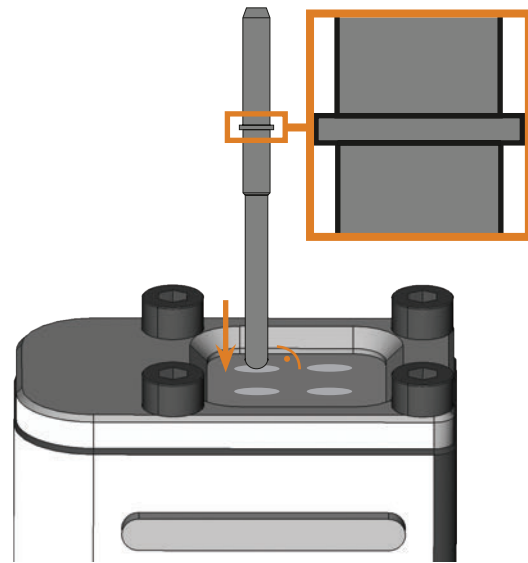

FIG. 17: INSERTING TOOL STRAIGHT INTO THE TOOL POSITION; RING AT THE TOOL ENLARGED
- Insert the tools straight into the tool positions and push them in until the ring touches the rubber ( Fig. 17).